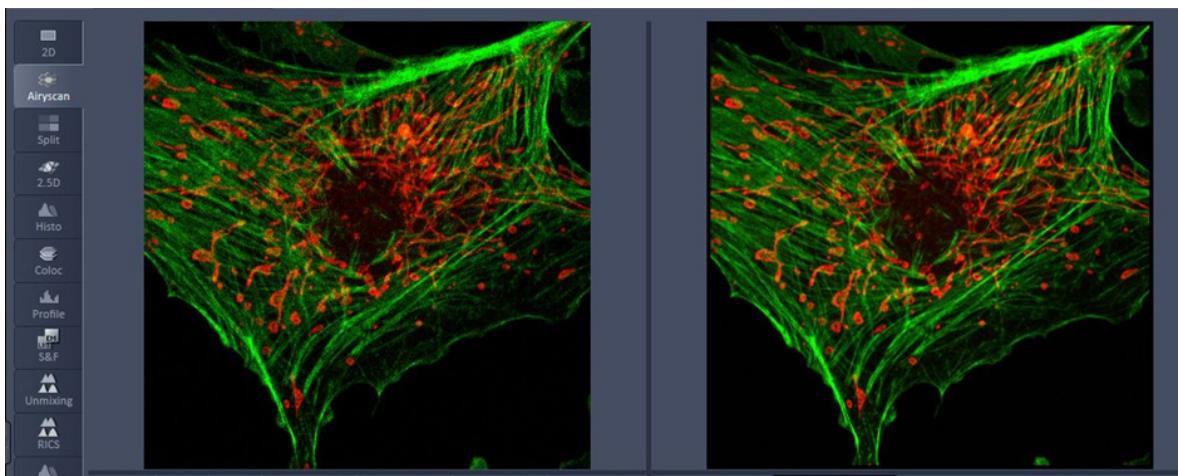

Fig. 620 2D processing result
SR (VP) image gives a real time impression of the 2D processing result (Fig. 620). This can be both the SR mode and the VP mode. You can see the improved resolution or the modified sectioning this way.